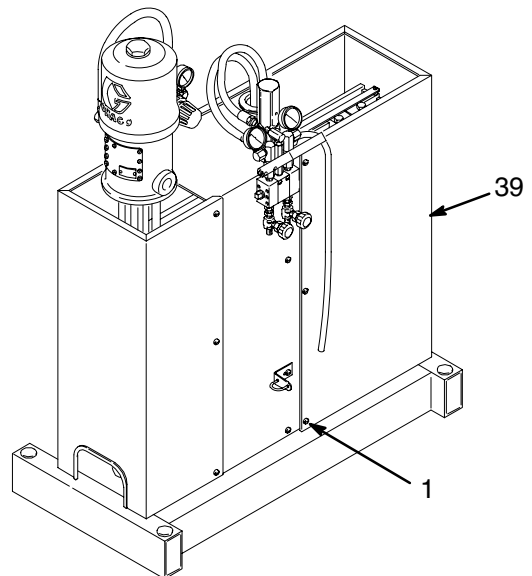

Fig. 13
3. Remove the safety panel (39). See Fig. 13. Disconnect the inlet and outlet fluid hoses of the secondary displacement pump (124).